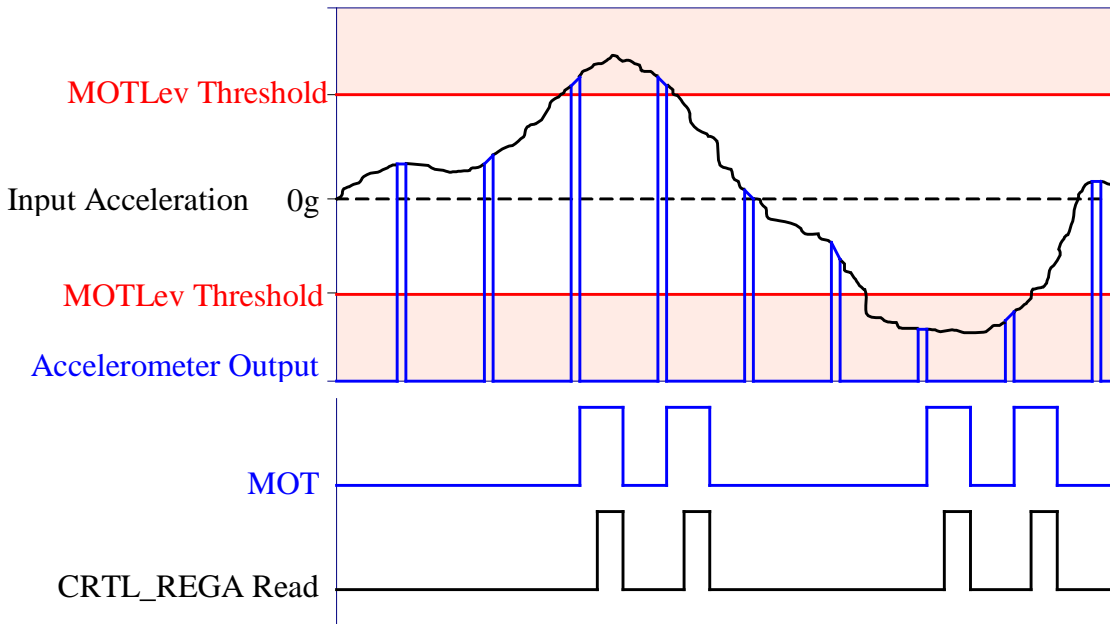

Figure 8 Unlatched Motion Wake Up Response
MOTLat = 0 – If MOTIen in CTRL_REGB is “1” and a motion event happens, the MOTI bit in CTRL_REGA will be set to “1” and the MOT pin (7) will be pulled high. The part will remain in low power motion wakeup mode. The MOT pin (7) can be cleared by reading CTRL_REGA. Figure 8 shows the response of the KXSD9 as described above.